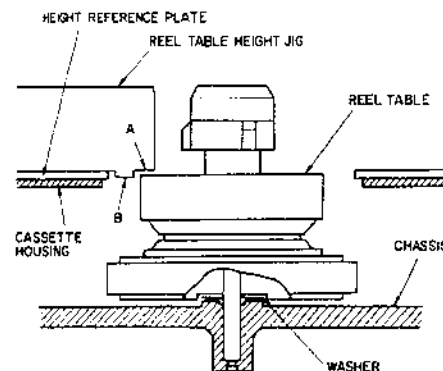

Fig. 75
- (1) Connect the sweep generator (40 to 50 MHz) to the TP terminal of the tuner pack via the coupling circuit shown in Fig. 75.
- (2) Loose-couple the marker generator (41.25 MHz, 42.17 MHz, 45.75 MHz) with the sweep generator.
- (3) Connect the oscilloscope to the TP terminal of the IF pack.
- (4) Connect the +5.6V stabilized voltage power supply to J751 (AGC-V) of the tuner pack.
- (5) Connect IC801 pin 22 of the IF pack and the GND terminal.
- (6) Connect a 50Ω resistor between IC801 pins 18 and 19 of the IF pack.
Two sizes of washers are available: 0.25 mm and 0.5 mm. These should be used in combination to achieve the same reference height for both reel tables. (Fig. 75)